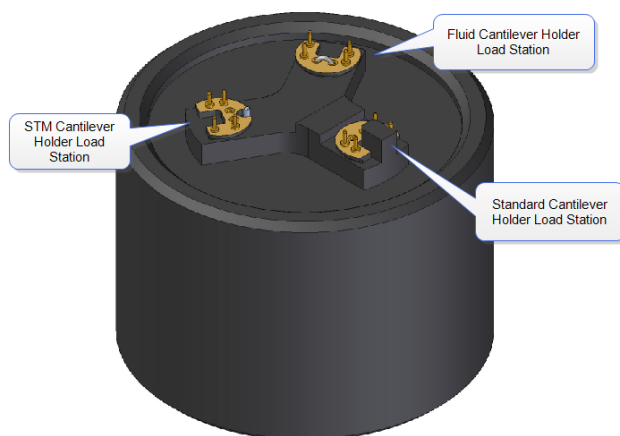
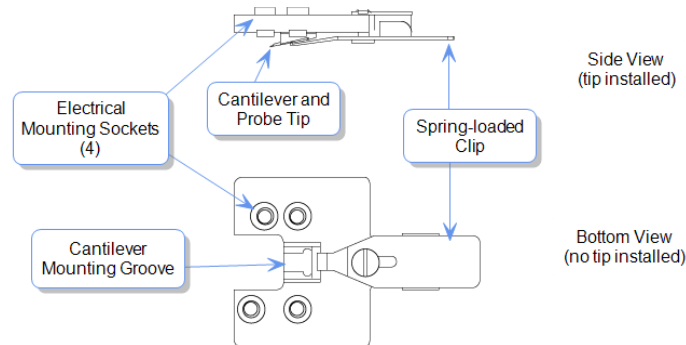

Figure 1. Probe holder Stand
Figure 2. Tip Holder
- 6) Loading the probe. The probe holder, Figure 1, should be in the black cylindrical case (the probe holder stand) on the desk. Mate the probe holder sockets (Figure 2) to the pins on the probe hold stand at the appropriate loading station. For AFM ensure that the probe holder’s large spring clip faces up.